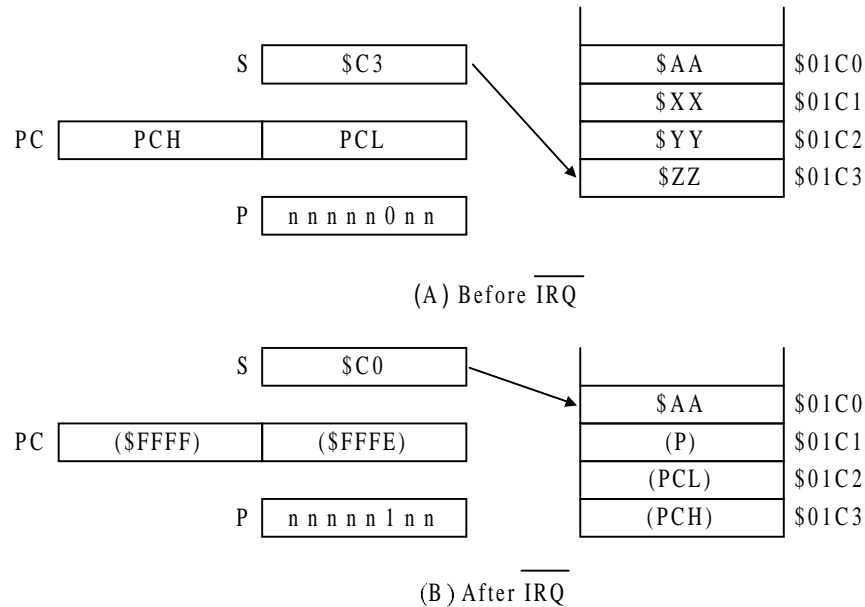

Fig. 1-3-1 6502 responds to an IRQ
Fig 1-3-1 summarizes how the 6502 responds to an IRQ, by showing both “before” and “after” diagrams of the Stack Pointer (S), program counter (PC), the processor status register (P), and four locations in the stack (here, assumed \$01C0 to \$01C3).
$\overline{\text{NMI}}$  interrupt always has priority over  $\overline{\text{IRQ}}$  interrupt that means if an interrupt request and a nonmaskable interrupt occur simultaneously, the 6502 will process the nonmaskable interrupt. The 6502 performs an eight-cycle sequence for either type but, for the  $\overline{\text{NMI}}$ , the vector pointer is fetched from locations \$FFFA (low-address byte) and \$FFFB (high-address byte), rather than from locations \$FFFE and \$FFFF (those for  $\overline{\text{IRQ}}$ ). In fact, Fig. 1-3-1 also illustrates how the 6502 responds to  $\overline{\text{NMI}}$  as well, except that for the  $\overline{\text{NMI}}$ , the post-interrupt value of the program counter would be (\$FFFB) and (\$FFFA).